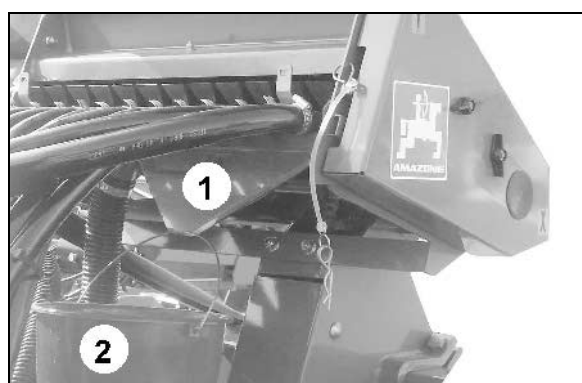

Fig. 39
3. Place the collection tray (Fig. 39/2) underneath the outlet (Fig. 39/1)